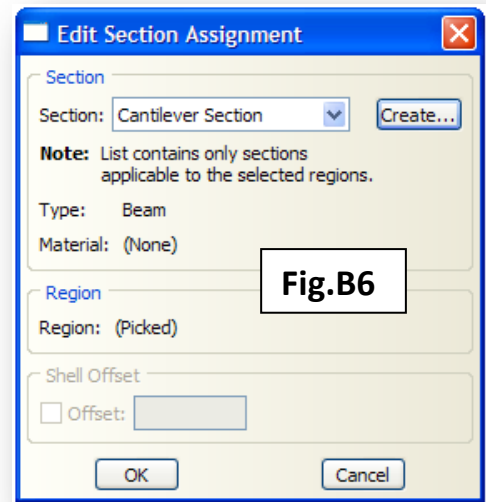

Fig.B6
4. From the main menu bar select **Assign→Section**. Use the mouse cursor to select the Cantilever Beam part and select **Done** in the prompt area. The **Edit Section Assignments** dialogue box will open as shown in **Fig.B6**.